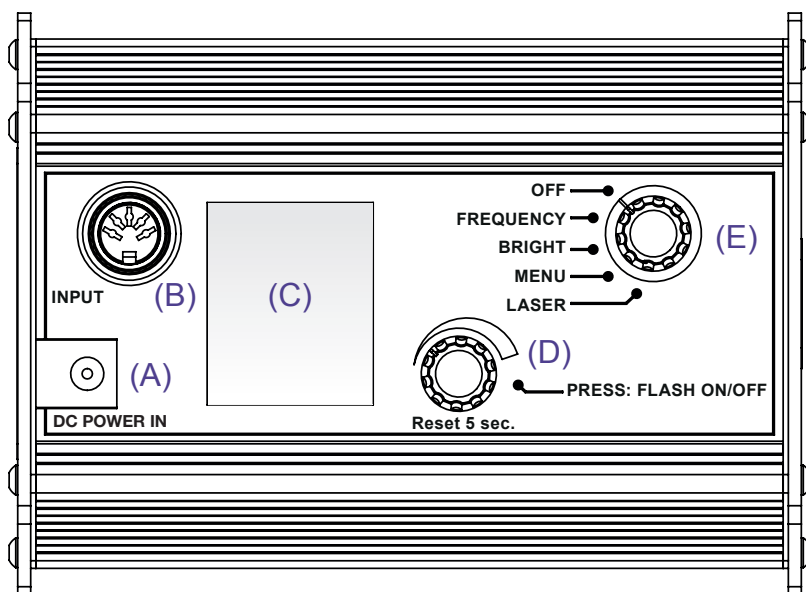

Fig.1 - Stroboscope LS-3-LED
3.1 Connectors (see Fig. 1)
1. Plug in External AC-DC Power to (A) DC POWER IN on rear of device (see Fig 1).
2. Direct the device at a moving object and switch it on. Turn the selector switch (E) one notch to the left to **“FREQUENCY.”**